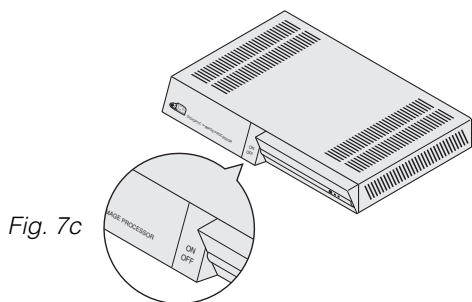

Fig. 7c
2) Turn on the DigiOptic™ Image Processor by pressing the button on the front panel (*Fig. 7c*).